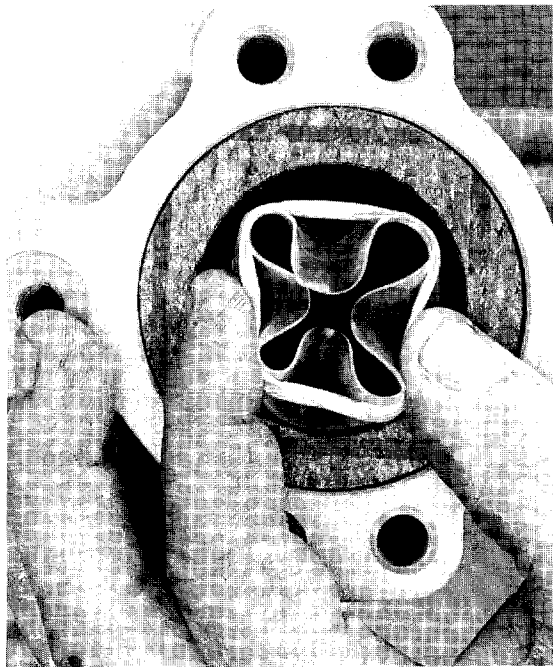

Fig. 29
31. At this stage, with a slight push at the bottom flange of the HYDRATUBE, guide the nose of the HYDRATUBE, to the center and out the top hole in the housing (Figure 29).